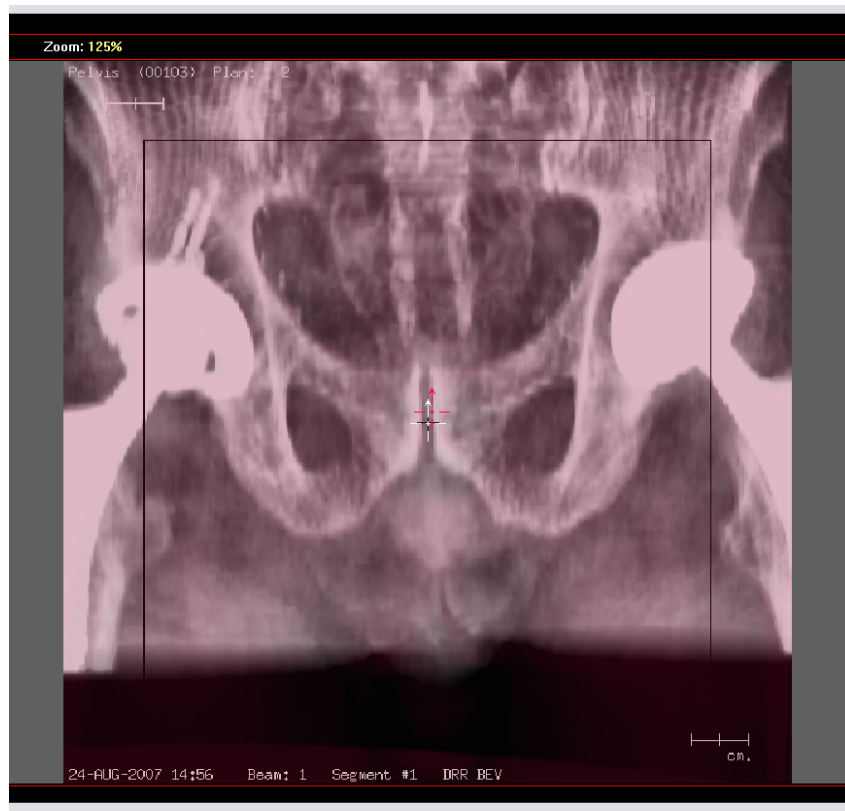

Figure 49: Isocenter Shifts Window - Grayscale Registration
3. Click **Calculate Shifts** to open the Isocenter Shifts window. Refer to Figure 49.